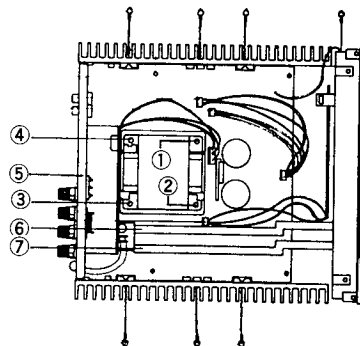

Fig. 4
2. Remove screws ① to ④ in Fig. 4, and then remove the pcb-② with the power transformer
3. Remove switch rods ⑥ to ⑦ and speaker selector switch in Fig. 4